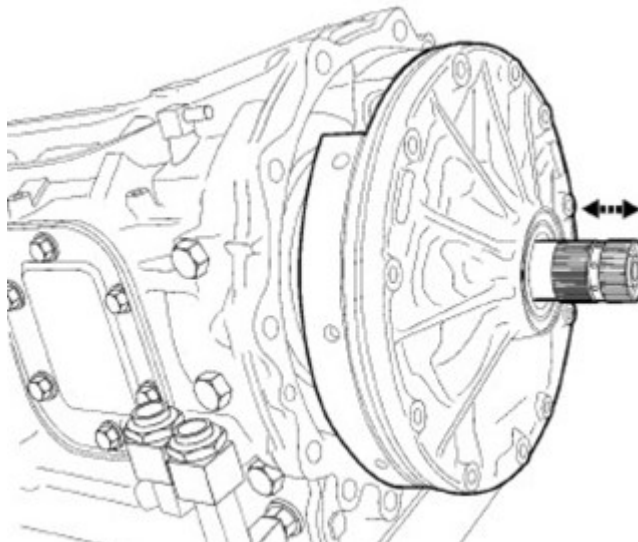

Fig. 15
25. Install the oil pump with a **NEW** gasket onto the transmission case (Fig. 15) .